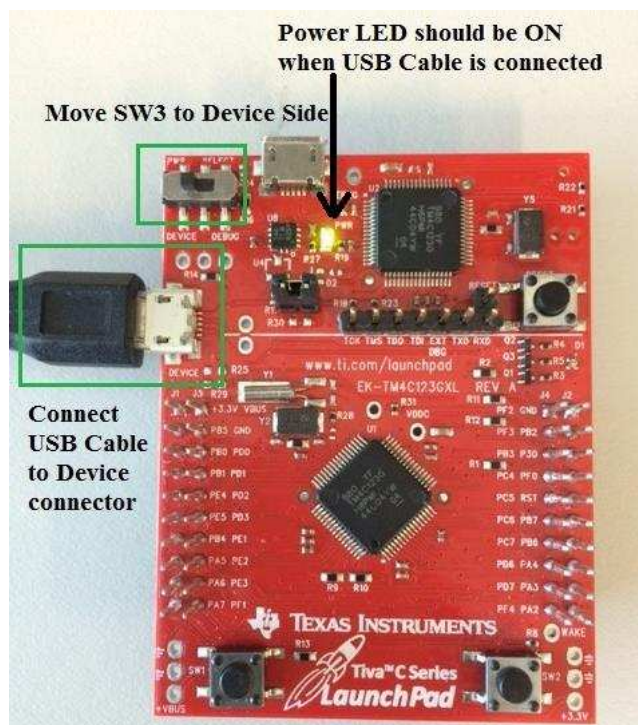

Figure 16. Programmer Board Setup
2. Configure the board to perform the role of a programmer. This can be done by moving the “Power Select” switch SW3 to Device side, as shown in Figure 16.